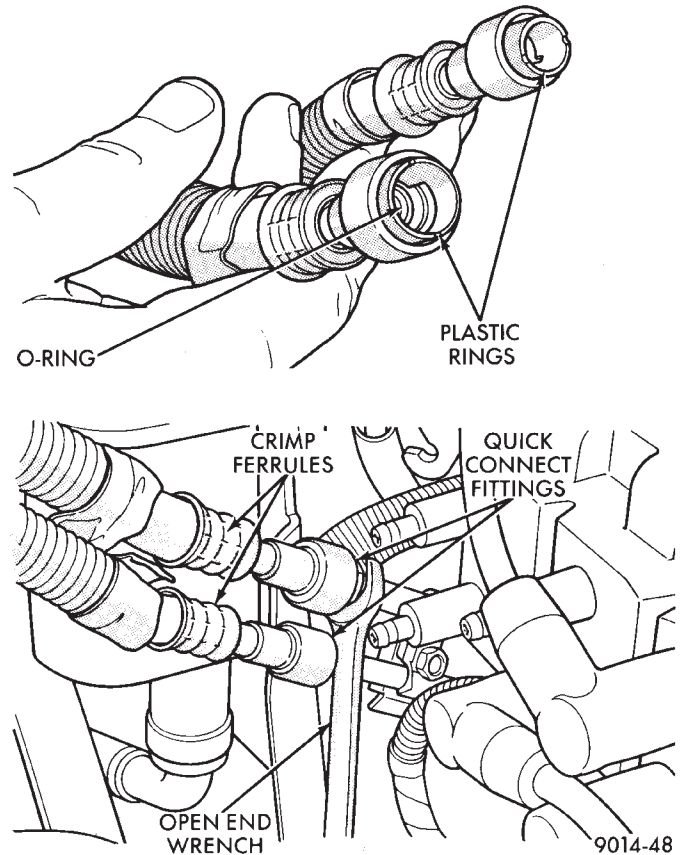

Fig. 7 Quick Connect Fuel Fittings to Fuel Rail
(12) Remove the fuel hose quick connect fittings from the fuel rail by using an open end wrench pushing in on the plastic ring located on the end of the fittings. Gently pull the fittings from the fuel rail (Fig. 7).